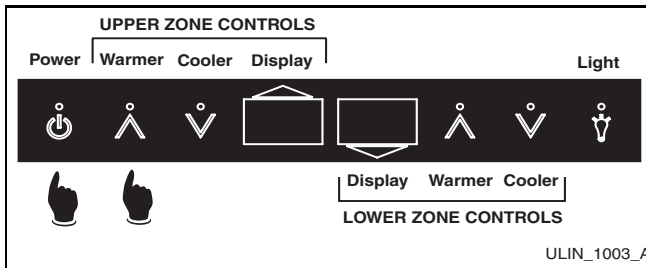

Figure 7. Turning Display On/Off
A DISPLAY OFF mode is available through the control panel. This mode allows you to control whether the displays (**Figure 7**) will be ON or OFF whenever the door is closed. The icon touch sequence that follows will switch between both modes:
1. Touch and hold the left display WARMER icon, and within five seconds press the POWER icon three times (**Figure 7**).